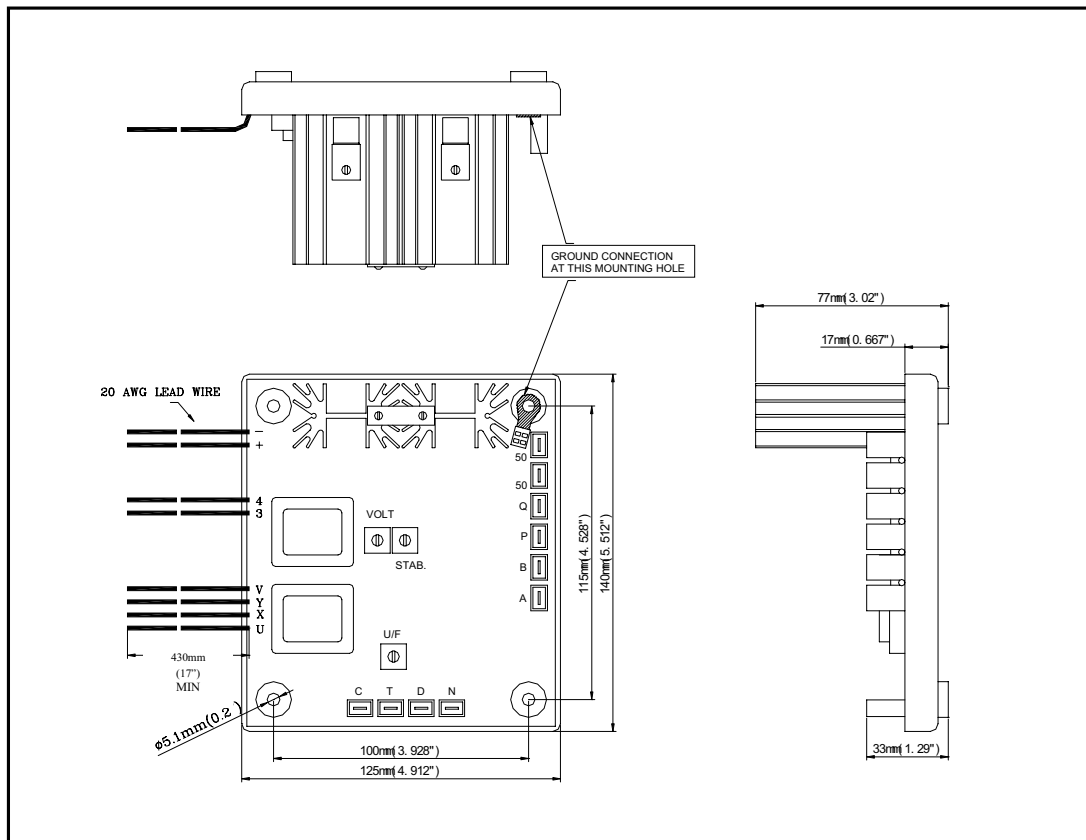
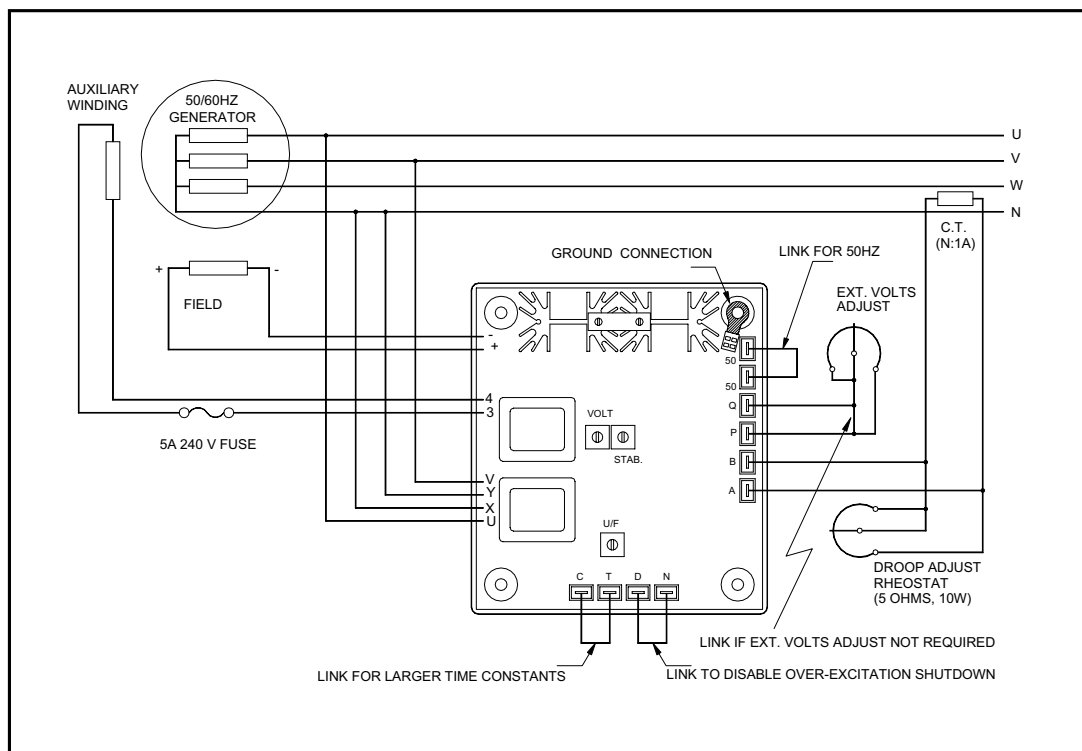

Figure 2-1 SS42-7 Outlined Diagram.
Figure 2-2 Interconnection Diagram, 480 Vac High Y Generator.
The regulator may be mounted on the generator in any convenient position. Refer to outline drawing Figure 2-1. Figure 2-2 provides the drilling template.
- a. An internal screwdriver pre-set (V) provides coarse adjustment of generator output voltage. Moving the rheostat clockwise increases voltage.
- b. The voltage regulator is shipped from the factory with a link across terminals P and Q. If a remote voltage adjusts rheostat is used, the link should be removed and the Rheostat connected to P and Q. A 1 Kilo-Ohm, 0.5W. Potentiometer will provide a “fine” voltage range adjustment of approximately $\pm 10\%$ over most of the coarse range of adjustment. See Figure 2-2 interconnection diagram.